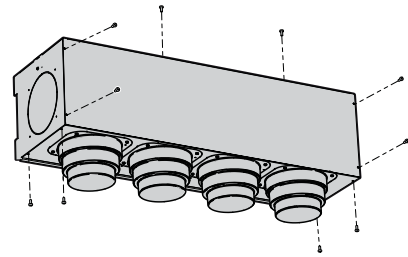

Fig.11
- Use the four screws provided to fasten the PA_V accessory to the unit intake vent (fig. 11)